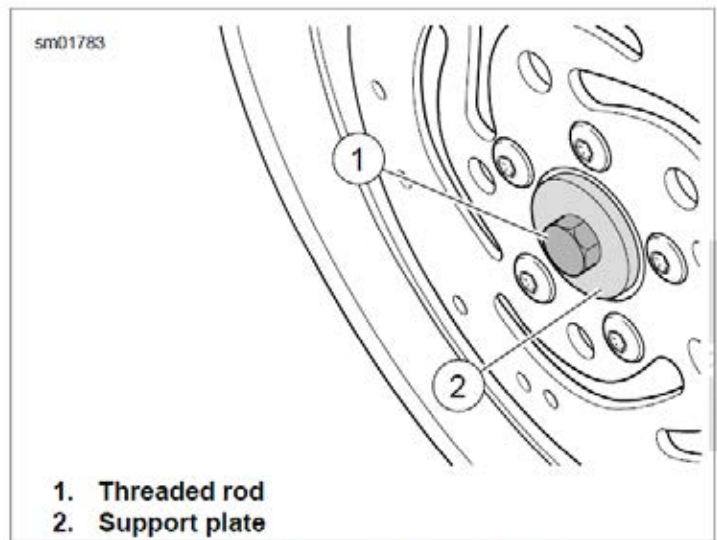

Figure 2-35. Assembling Installation Tool
1. See Figure 2-35. Sparingly apply graphite lubricant to threads of threaded rod (1) of WHEEL BEARING REMOVER/INSTALLER (Part No. HD-44060C).